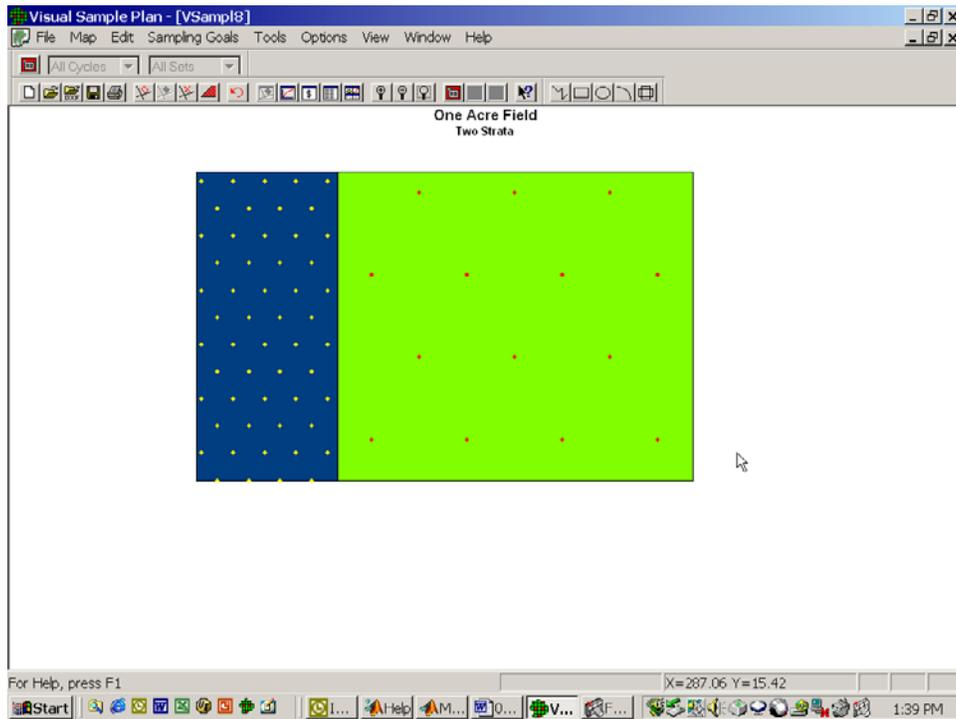

Figure 18. Example of subdivided sampling area
To make your screen look like Figure 18 below:
- Left-click in the right-hand subsection to display it as well. Your screen should now closely resemble Figure 18.